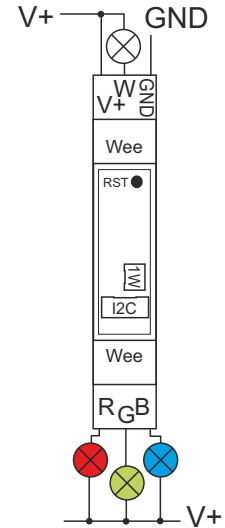

Fig 1. Diagram of connecting the connector
1. Note of the card PIN and Serial Number (SN) device (Both located on the housing of the device)
2. Connect the cables V+, GND, R, G, B, W by Fig 1.